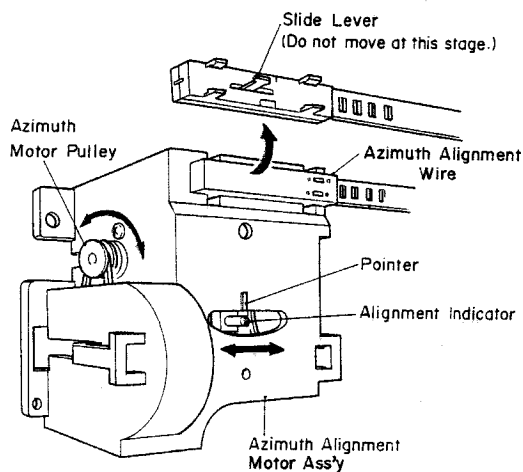

Fig. 4.18
- (a) Set the N-680ZX in stop mode. Turn the Azimuth Motor in the Azimuth Alignment Motor Ass'y by hand so that the Alignment Indicator corresponds to the pointer of the Azimuth Alignment Motor Ass'y as shown in Fig. 4.18. Remove the Azimuth Alignment Wire by pulling out from the Azimuth Alignment Motor Ass'y. In this case, do not move the Slide Lever of the Azimuth Alignment Wire. Short both leads of capacitor C903 on the Auto Azimuth P.C.B. Ass'y with a jumper wire.